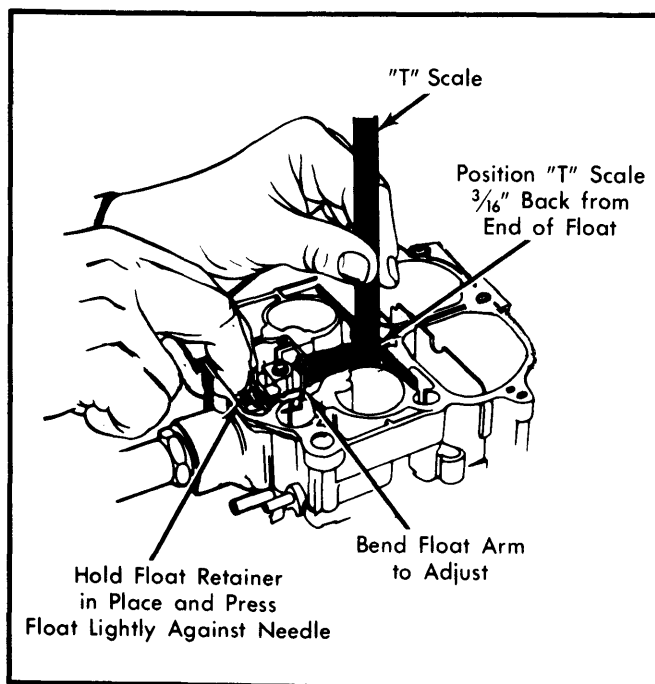

Fig. 2 Adjusting Float Level
1) Remove air horn. Remove gasket from main body casting. Hold float retainer firmly in place. See Fig. 2.